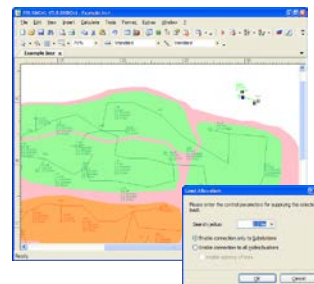

Figure 3: Load allocation
- Optimal connection points for new loads (see Fig. 3)